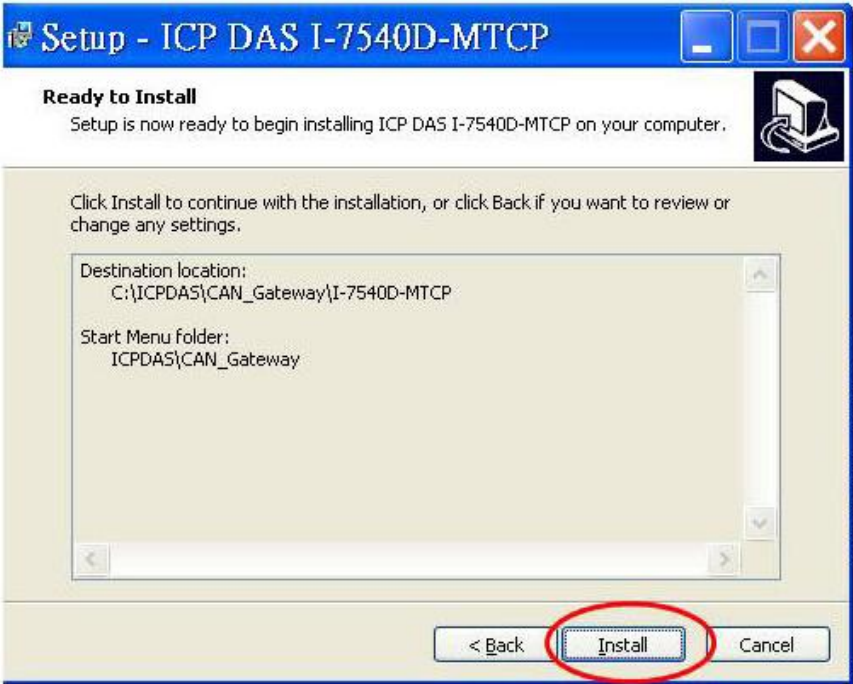

Figure 3-5: “Ready to Install” dialog
**Step 6:** Click “Install” button and start to install the I-7540D-MTCP Utility to the system. After finishing the process, a “Complete” window will pop up to prompt users that the successful completion of the installation. And click “Finish” button to exit. See figure 3-5.